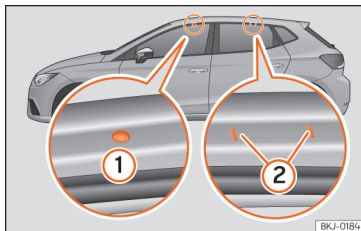

Fig. 121 Attachment points for the roof railings for the roof carrier system.
The front and rear attachment points ① and ② are only visible when the doors are open »» Fig. 121.